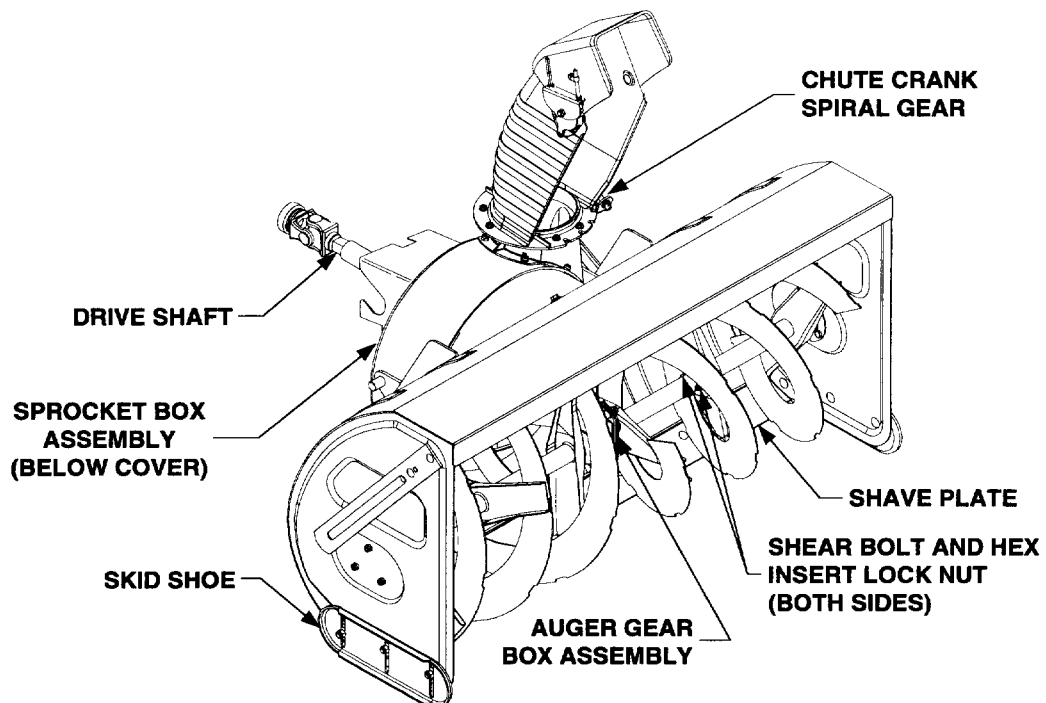

Figure 17
1. The augers are secured to the auger shaft with two shear bolts and hex insert lock nuts. Refer to Figure 17. If the auger is suddenly jammed by a foreign object or ice chunk, the bolts are designed to shear — minimizing potential damage to the gear boxes.
2. If the augers will not turn, check the bolts to see if they have sheared. Two replacement shear bolts (9) and hex insert lock nuts (8) have been provided with the snow thrower. For future use, order part number 710-0891 for replacement shear bolts and 712-0429 for the lock nuts.